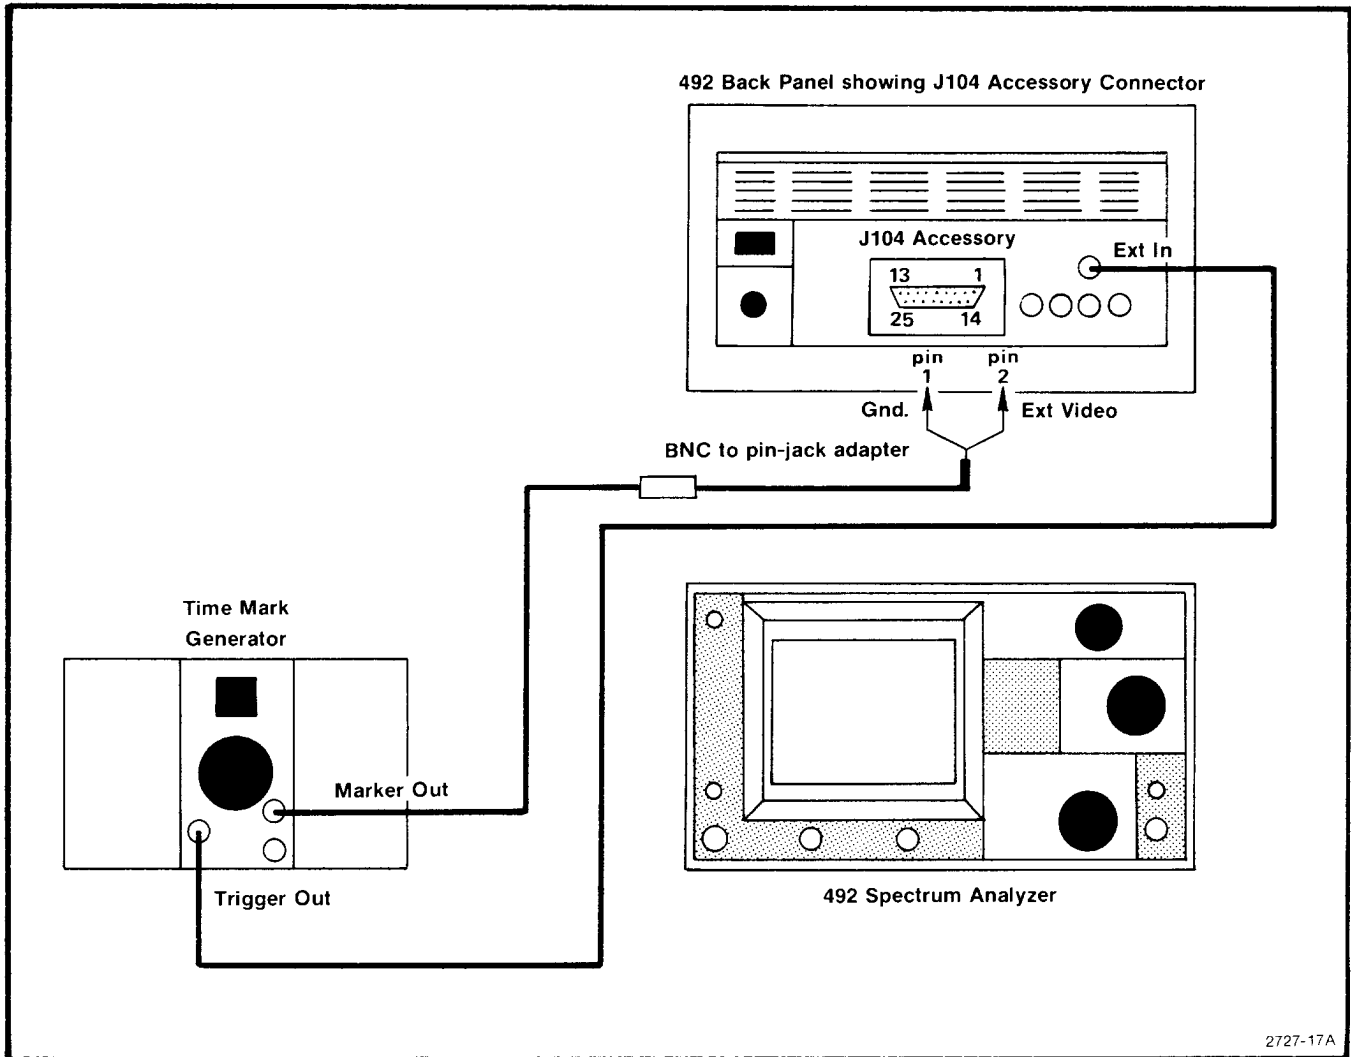

Fig. 3-28. Test equipment setup for calibrating sweep timing.
a. Test equipment setup is shown in Fig. 3-28. Select EXT Triggering, TIME/DIV of 10 ms, and a FREQ SPAN/DIV of 10 MHz or less.
b. Apply 10 ms time marks from the time-mark generator to the EXT Video In (pins 2 and 1 of the ACCESSORIES jack, see Fig. 3-28) and the Trigger Output of the time-mark generator to the EXT TRIG input on the back panel of the 492/492P. This should provide a display of 10 ms markers.